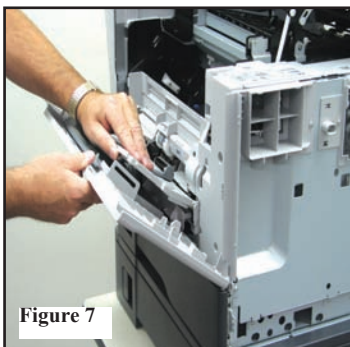

Figure 7
- 11 a. Separate tray one from outer door. (Figure 7)